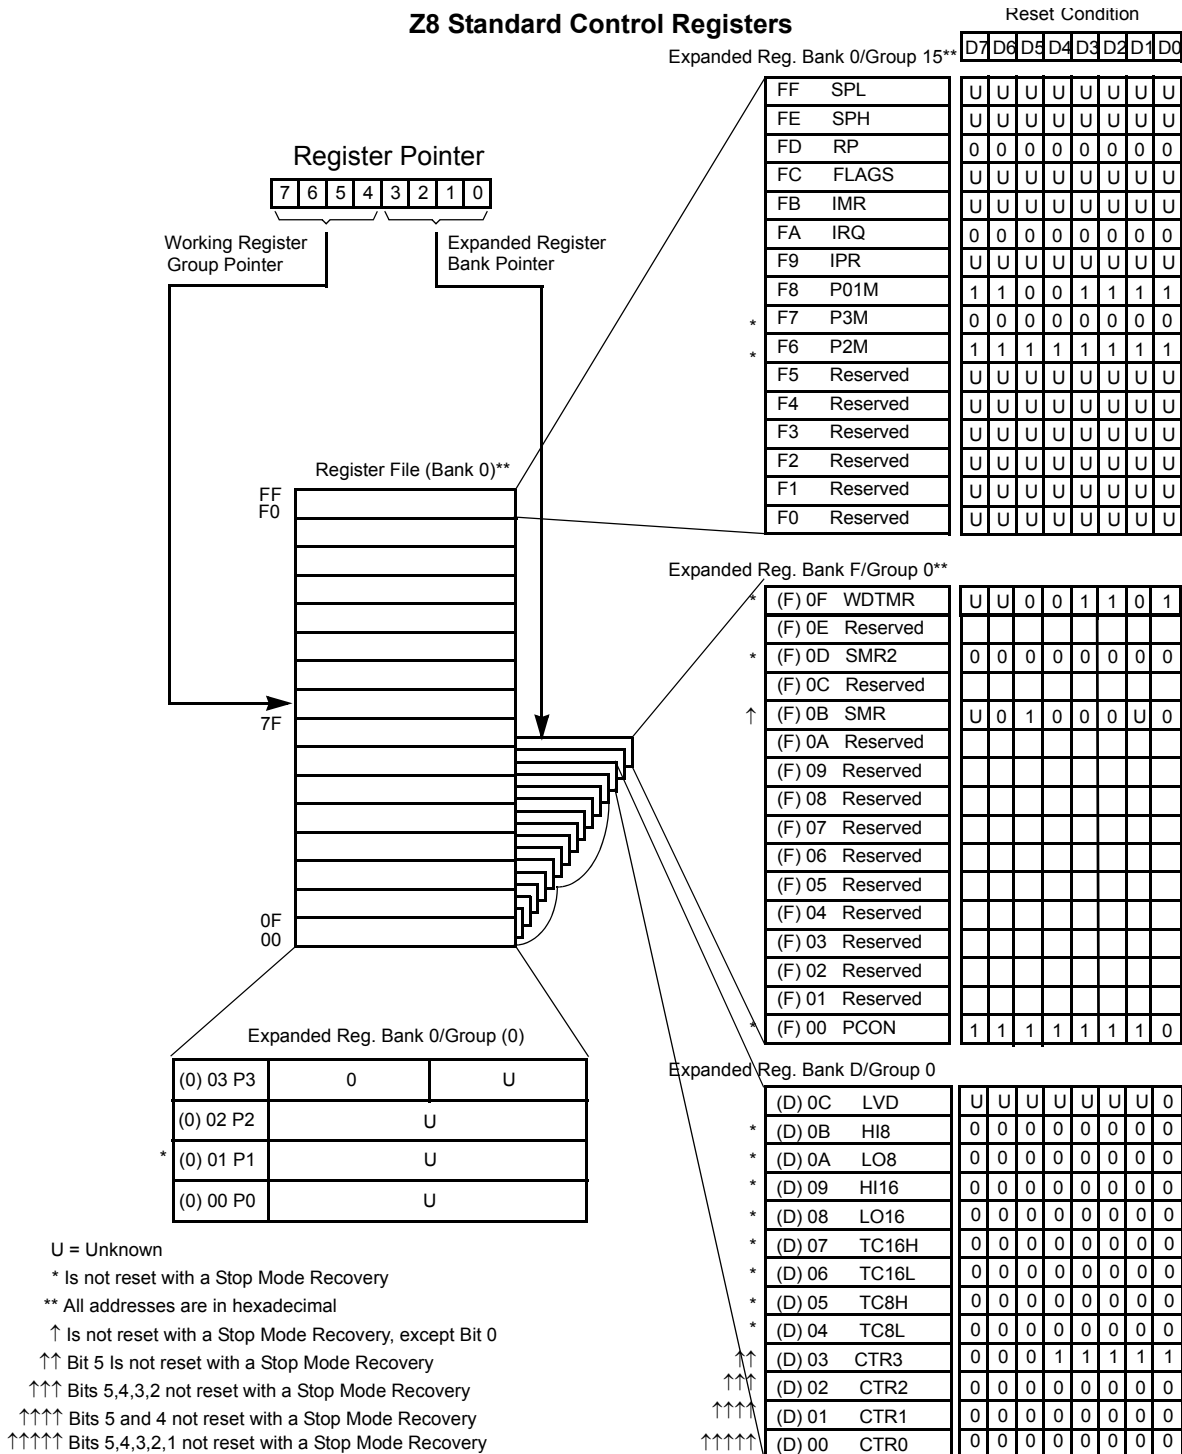

Figure 13. Expanded Register File Architecture
► **Note:** *An expanded register bank is also referred to as an expanded register group (see Figure 13).*
Example: Z8 GP: (See Figure 13 on page 22)